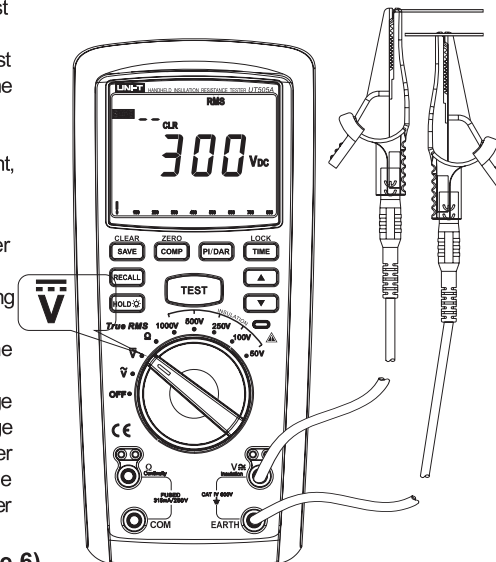

Figure 5
2. DC voltage measurement (See Figure 5)
- ① Insert red test pen in “ $\sim V$ ” jack (red hole) and black test pen in “EARTH” jack (black hole).
- ② Push the rotating switch to the gear “ $\sim V$ ” and connect test pen in parallel with the power source or to both ends of the load to be measured.
- ③ Directly read the measured voltage value from display.
- ④ To save the measured voltage value during measurement, just push the button “SAVE”.